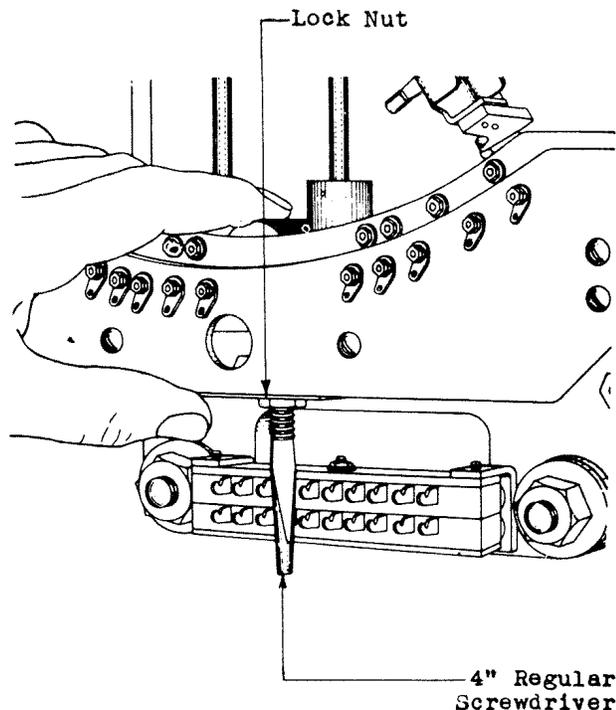

Fig. 26 - Method of Raising or Lowering the Pendulum
(1) Before the dial tester is mounted or aligned, make sure that the pendulum is raised from its "V" bearings and fastened securely in this position. To do this loosen the pendulum locking bracket screws with the 4" regular screwdriver and invert the bracket so that the two pendulum rods are in the holes in the bracket.
(2) Adjust the pendulum locking bracket so that there is a clearance of 1/16 inch between it and the top of the period adjusting disc. Then tighten the bracket screws sufficiently to hold the bracket in position. Loosen the locknut on the pendulum locking screw with the No. 24 J.H. Williams Co. wrench or the No. 243 wrench as required for proper fit.
(3) Steady the pendulum with one hand as shown in Fig. 26 and slowly turn the locking screw in (clockwise) with the 4" regular screwdriver until the tip of the screw enters the hole in the pendulum bottom plate and moves the complete pendulum assembly up against the bracket. Then tighten the lock nut.
(4) Perfect accuracy is necessary in the alignment of the dial tester and if at any time it is necessary to realign it on the sub-base or bracket this should be done in the following manner.
(5) Slightly loosen the adjusting nuts on the upper and the lower mounting studs with the No. 29 J. H. Williams Co. wrench. Level the dial tester horizontally by observing the level "A", moving the dial tester to the right or to the